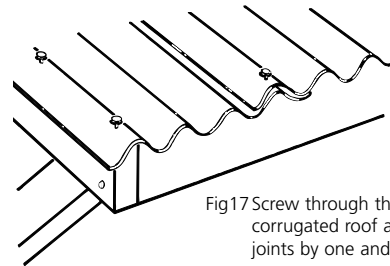

Fig 17 Screw through the 'hill' of the corrugated roof and overlap the joints by one and one half.
- One 3.6metre sheet of roofing material will cover the entire workbench roof, simply cut the sheet into three equal lengths and fix to the roof frame with roofing screws and washers. Remember to screw through the 'hill' of the corrugated material into the frame members and overlap the corrugations by one and one half (see fig 17).